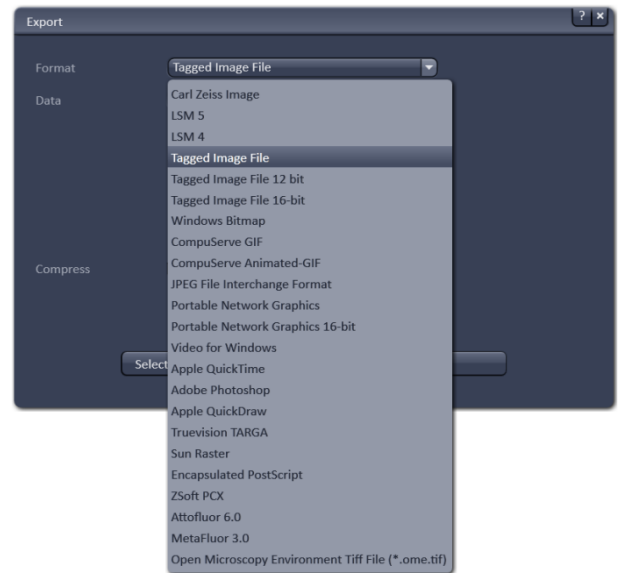

Fig. 711 Format selection
- Under **Format**, select the format to which the image is to be exported to (Fig. 711).